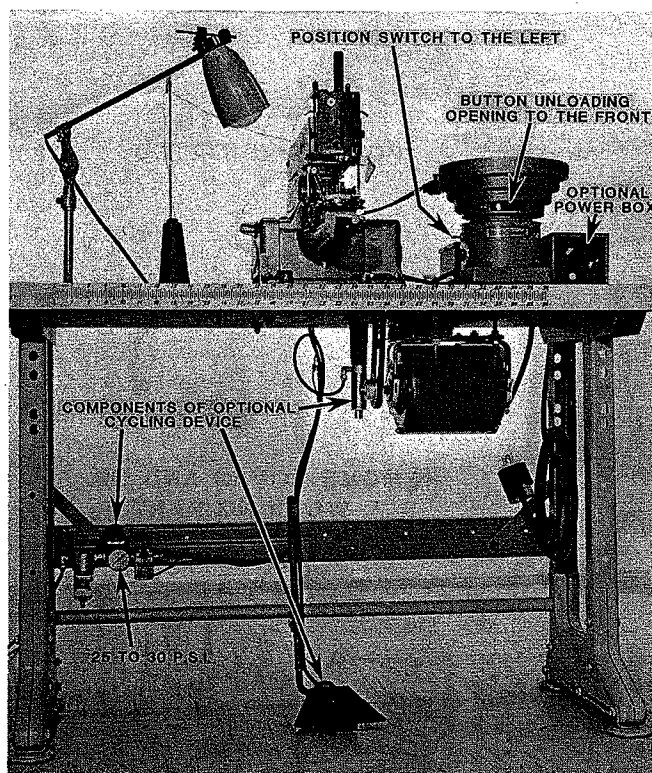
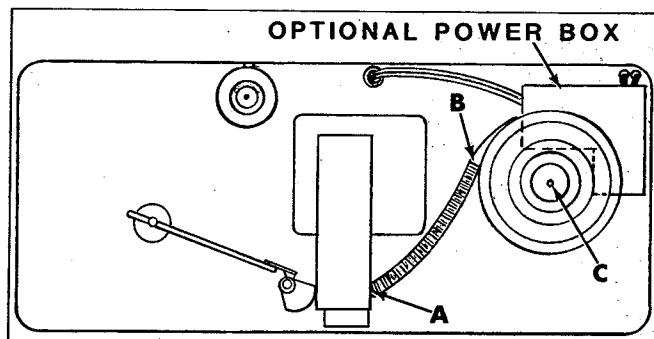
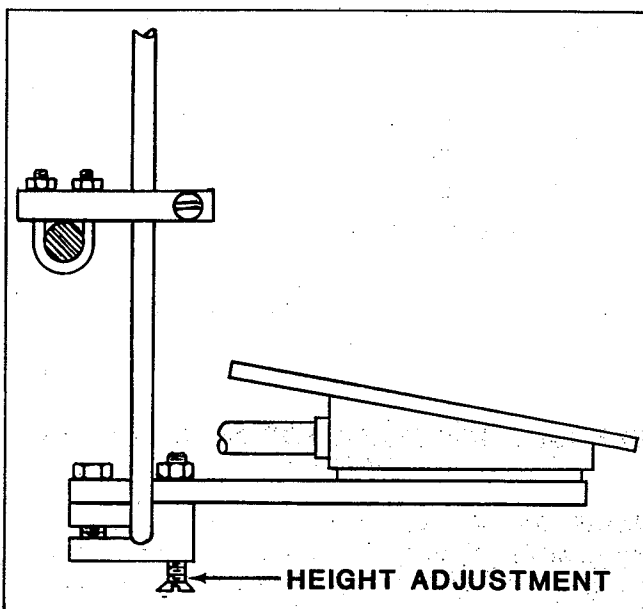

Fig. 5
Fig. 6
Fig. 9
Place vibrator base onto isolators placed in holes provided in the tableboard (Fig. 5), position switch and control knob to left facing the machine.
Assemble the button bowl to the vibrator base using screw furnished (C, Fig. 6). Position bowl so that the button unloading opening faces toward the front (Fig. 5).
Mount the button guide track to the bowl and to the button clamp assembly on the machine (Points A and B, Fig. 6).
Mount the power box to the right rear corner of the tableboard in the holes provided (Fig. 6).
- Mount the power box to the right rear corner of the tableboard in the holes provided (See Fig. 5).
- Assemble air filter, regulator and solenoid valve as shown (Fig. 5). Set regulator so air pressure is 25 to 30 PSI.
- Assemble treadle (Fig. 9) and mount on the treadle rod as shown (Fig. 5). Note the treadle rod is located on rear of stand base approximately 6 inches (152.4 mm) up from floor. Adjust pedal height adjustment screw (Fig. 9) so operator is comfortable.